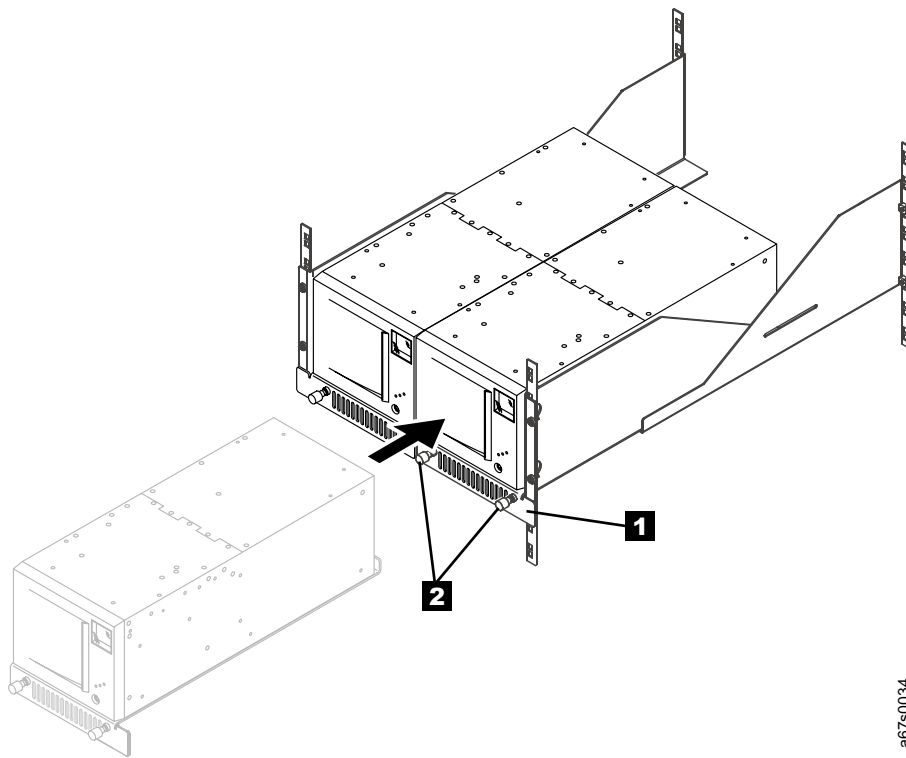

Figure 46. Installing a second 3581 Tape Autoloader onto the rackmount tray
4. Slide the right sled (see **1** in Figure 46) into position on the rackmount tray.